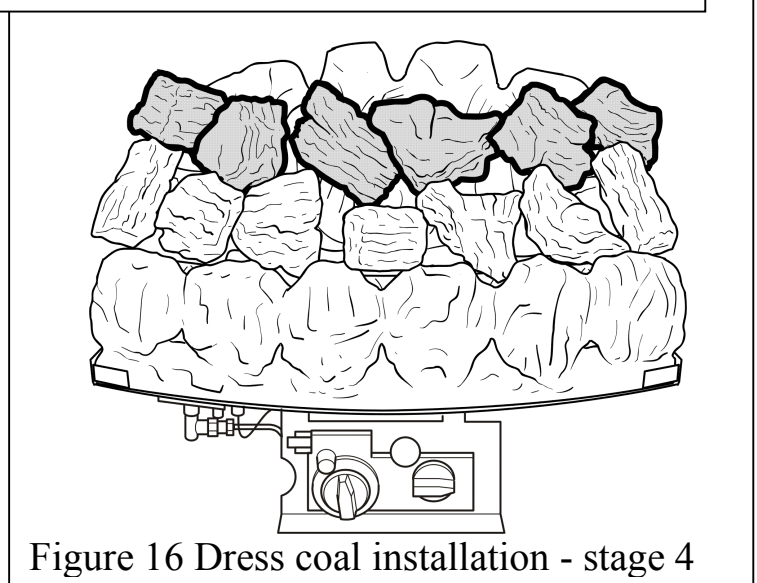

Figure 16 Dress coal installation - stage 4
3.4. Take six random shaped coals and position as shown in figure 16. This second row of coals should rest on top of the first row, overlapping by 5-10mm. In order to get the best flame effect, it is important that the coals are evenly spaced, and have roughly equal gaps between them.